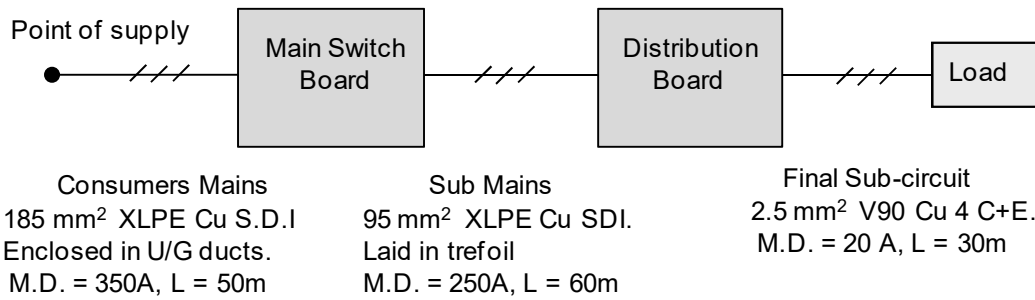

figure 2.
11. For the installation in figure 2 determine the;